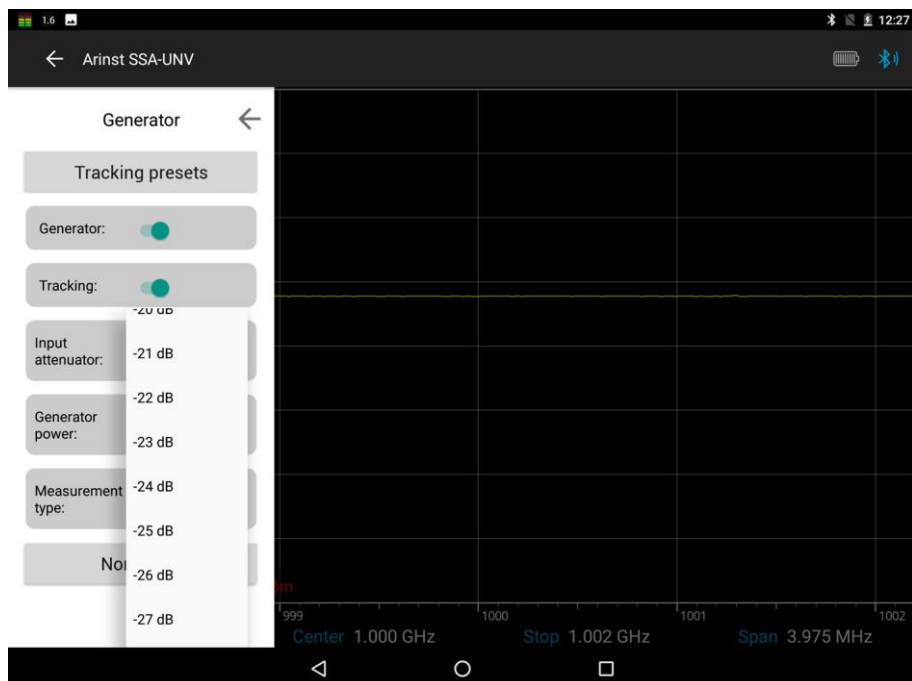

Figure 69 – Setting the signal attenuation level by the input attenuator
9.2.1. In the **Generator** menu, turn on the **Tracking** mode and set the value of the **Generator Power** in the range from -15 to -25 dBm, depending on the equipment under study. Set the desired attenuation level of the input attenuator **Input attenuator** in the range from 0 to -30 dB, figure 69.
9.3.1. In the **Generator** menu, enable the **Tracking** mode and set the **Generator Power** value in the range from -15 to -25 dBm, depending on the equipment under study. Set the desired level of attenuation of the **Input attenuator** in the range from 0 to -30 dB, figure 69.
9.4.1. In the **Generator** menu, turn on the **Tracking** mode and set the value of the **Generator Power** in the range from -15 to -25 dBm, depending on the equipment under study. Set the desired attenuation value of the input attenuator **Input attenuator** in the range from 0 to -30 dB, figure 69.